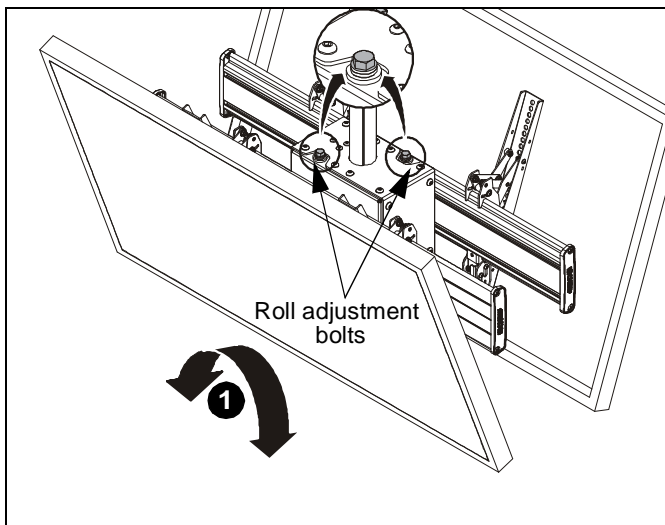

Figure 10
1. Turn the roll adjustment bolt(s) in the direction necessary for the desired roll. (See Figure 10)